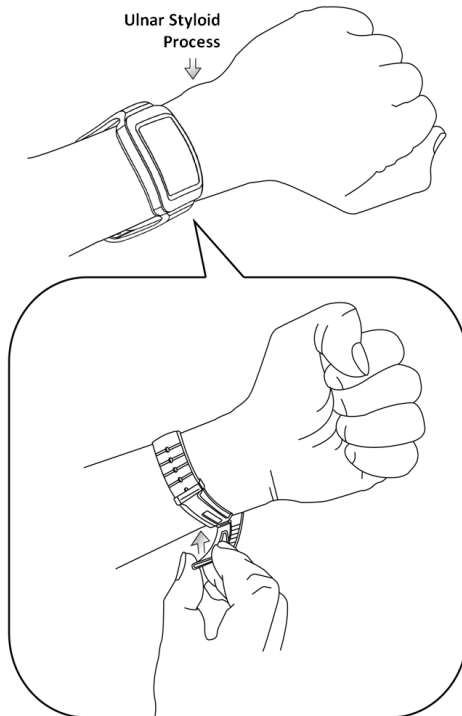

Figure 6. Wearing the oCare™ Pro 100
1. The oCare™ Pro 100 is worn on the back of the hand, slightly above the wrist bone (ulnar styloid process) as illustrated in **Figure 6** to provide the best comfort and measurement accuracy.